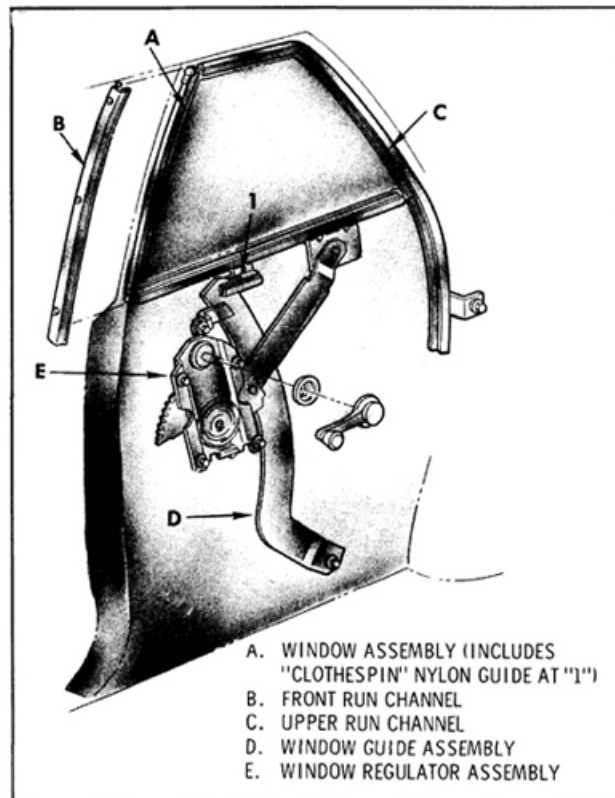

Fig. 16-360 Rear Quarter Window (27 Style)
REAR QUARTER WINDOW ASSEMBLY (27 Style—Fig. 16-360)
5. Lower window to disengage nylon "clothes-pin" guide on lower sash channel from window guide assembly at bottom, nylon guide on upper corner of front sash channel from front glass run channel, and rear edge of glass from rear glass run channel. (Fig. 16-360)